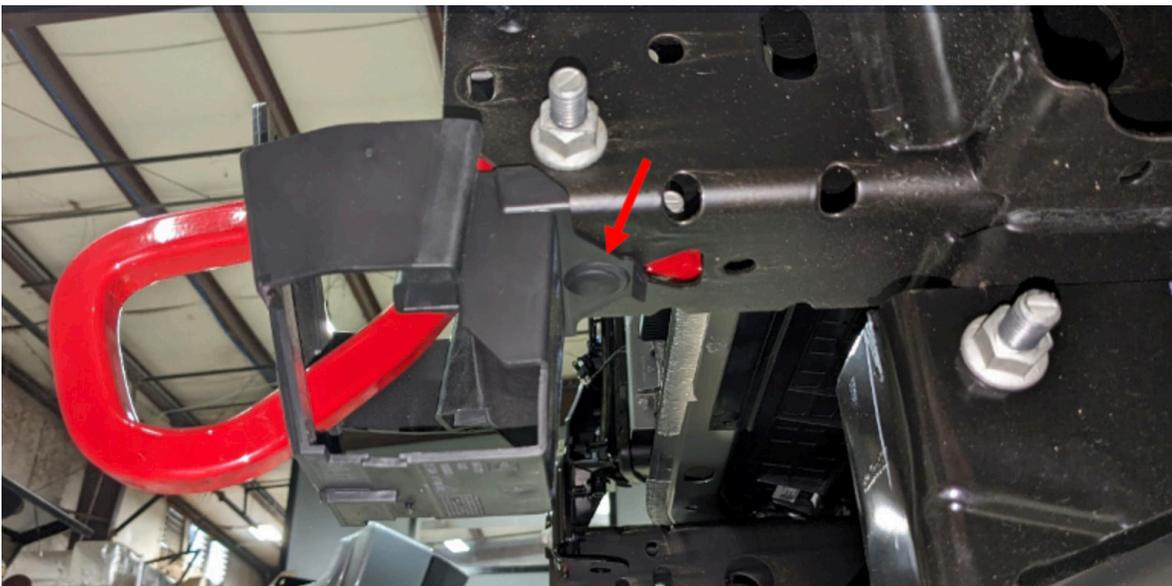

Figure 16
17. Use body pry tool to remove push pin from plastic tow hook shroud. Figure 16